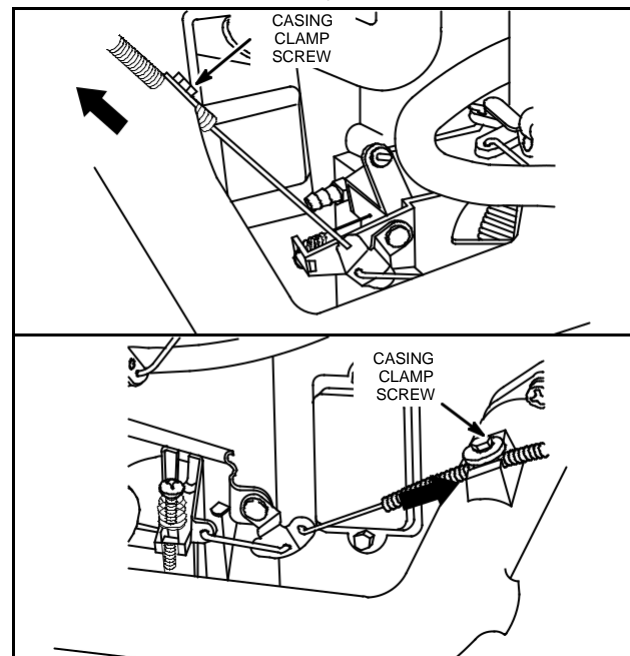

Fig. 6 – Remote Control – Twin II Vertical
1. Loosen control casing clamp at governor control bracket, Fig. 6.